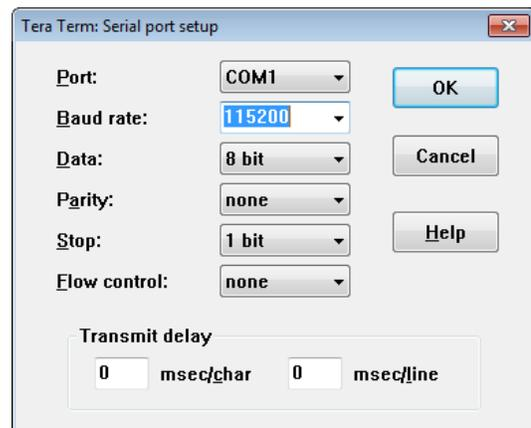

Figure 7: Tera Term Serial Port Setup
5. Set up the port as described below and as shown in **Figure 7**:
12. Navigate to the bitmap image file created with the parameters shown in **Figure 7** and click **Open**.